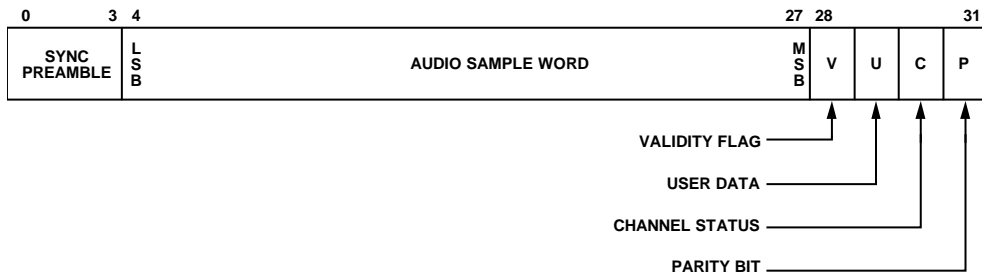

Figure 17. IEC60958 Subframe Timing Diagram
- A stream conforming to the IEC60958 specification when the part receives audio sample packets with L-PCM encoded data (refer to Figure 17).
- An SPDIF stream conforming to the IEC60958 specification (refer to Figure 17). The following configuration is required to output an SPDIF stream on the HBR output pins: